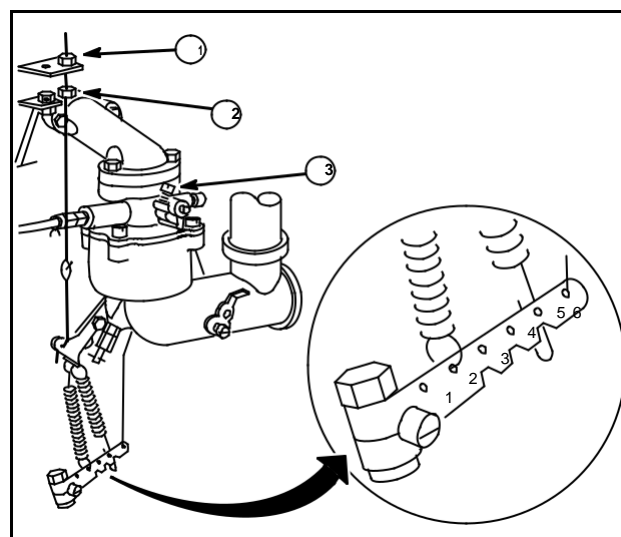

Fig. 38
1. Loosen lower stop nut (2).
2. Adjust top stop nut (1) to obtain specified TOP NO LOAD RPM.
3. After speed is set, tighten lower stop nut, Fig. 38. Idle speed screw (3).